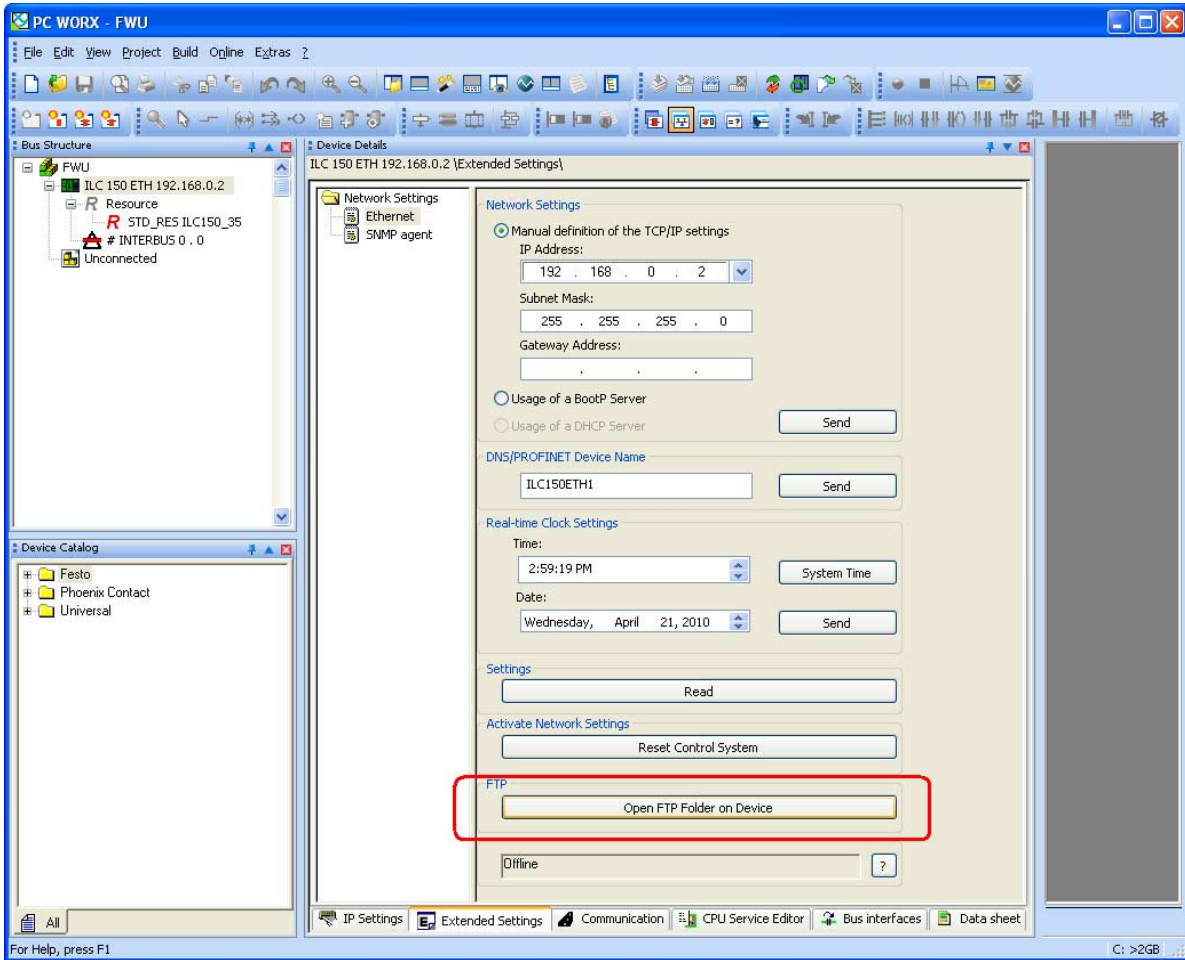

Figure 9 Device Details, Extended Settings: Open FTP Folder on Device
- In the "Bus Structure" window, select the controller used (in the example in Figure 9 on page 6: ILC 150 ETH).